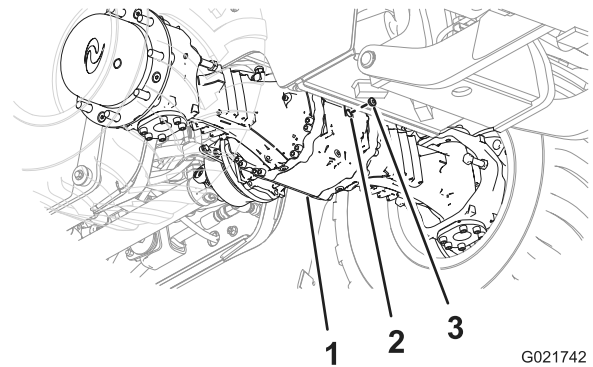
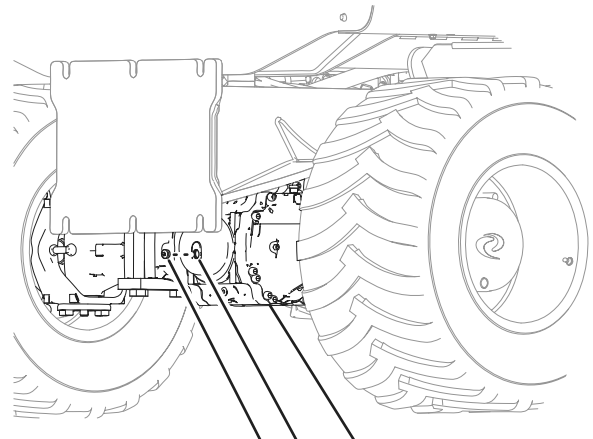

Figure 64
Figure 65
- Look through the sight port and check that the oil level in the axle is level with the bottom of the threads of the port (Figure 64 and Figure 65).
- Install the sight plug into the sight port in the pinion housing of the axle (Figure 64 and Figure 65).